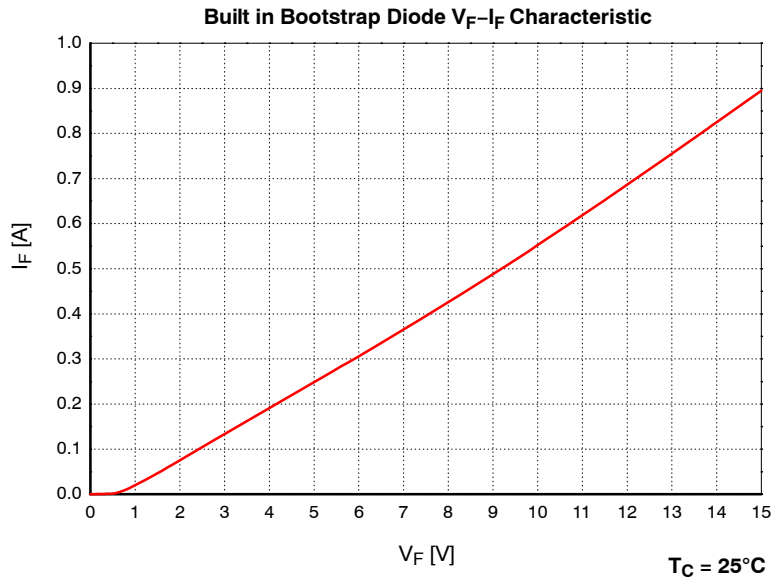

Figure 2. Built in Bootstrap Diode Characteristics (Typical)
8. Built in bootstrap diode includes around $15\ \Omega$ resistance characteristic. Please refer to Figure 2.